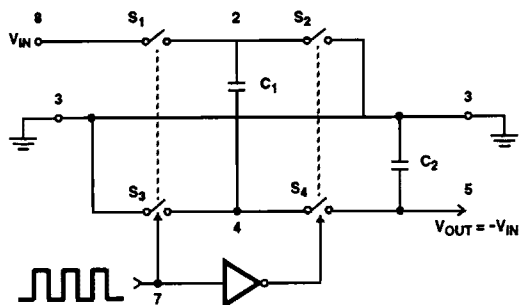
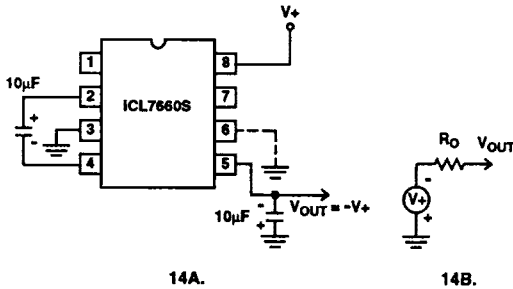
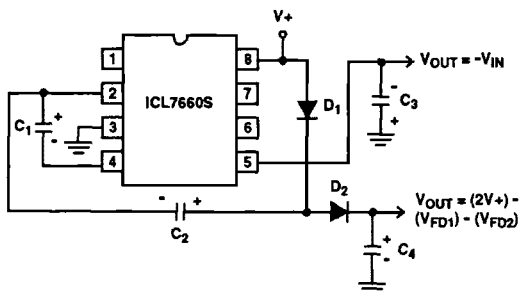

FIGURE 13. IDEALIZED NEGATIVE VOLTAGE CONVERTER
FIGURE 14. SIMPLE NEGATIVE CONVERTER AND ITS OUTPUT EQUIVALENT
FIGURE 21. COMBINED NEGATIVE VOLTAGE CONVERTER AND POSITIVE DOUBLER
The ICL7660S contains all the necessary circuitry to complete a negative voltage converter, with the exception of 2 external capacitors which may be inexpensive 10 μ F polarized electrolytic types. The mode of operation of the device may be best understood by considering Figure 13, which shows an idealized negative voltage converter. Capacitor C₁ is charged to a voltage, V₊, for the half cycle when switches S₁ and S₃ are closed. (Note: Switches S₂ and S₄ are open during this half cycle.) During the second half cycle of operation, switches S₂ and S₄ are closed, with S₁ and S₃ open, thereby shifting capacitor C₁ to C₂ such that the voltage on C₂ is exactly V₊, assuming ideal switches and no load on C₂. The ICL7660S approaches this ideal situation more closely than existing non-mechanical circuits.
In the ICL7660S, the 4 switches of Figure 13 are MOS power switches; S₁ is a P-Channel devices and S₂, S₃ and S₄ are N-Channel devices. The main difficulty with this approach is that in integrating the switches, the substrates of S₃ and S₄ must always remain reverse biased with respect to their sources, but not so much as to degrade their "ON" resistances. In addition, at circuit start up, and under output short circuit conditions (V_{OUT} = V₊), the output voltage must be sensed and the substrate bias adjusted accordingly. Failure to accomplish this would result in high power losses and probable device latchup.
where V₁ and V₂ are the voltages on C₁ during the pump and transfer cycles. If the impedances of C₁ and C₂ are relatively high at the pump frequency (refer to Figure 13) compared to the value of R_L, there will be substantial difference in the voltages V₁ and V₂. Therefore it is not only desirable to make C₂ as large as possible to eliminate output voltage ripple, but also to employ a correspondingly large value for C₁ in order to achieve maximum efficiency of operation.
The majority of applications will undoubtedly utilize the ICL7660S for generation of negative supply voltages. Figure 14 shows typical connections to provide a negative supply where a positive supply of +1.5V to +12V is available. Keep in mind that pin 6 (LV) is tied to the supply negative (GND) for supply voltage below 3.5V.
The output characteristics of the circuit in Figure 14 can be approximated by an ideal voltage source in series with a resistance as shown in Figure 14B. The voltage source has a value of $-(V_+)$. The output impedance (R_o) is a function of the ON resistance of the internal MOS switches (shown in Figure 13), the switching frequency, the value of C_1 and C_2 , and the ESR (equivalent series resistance) of C_1 and C_2 . A good first order approximation for R_o is:
Figure 21 combines the functions shown in Figure 14 and Figure 20 to provide negative voltage conversion and positive voltage doubling simultaneously. This approach would be, for example, suitable for generating $+9\text{V}$ and -5V from an existing $+5\text{V}$ supply. In this instance capacitors C_1 and C_3 perform the pump and reservoir functions respectively for the generation of the negative voltage, while capacitors C_2 and C_4 are pump and reservoir respectively for the doubled positive voltage. There is a penalty in this configuration which combines both functions, however, in that the source impedances of the generated supplies will be somewhat higher due to the finite impedance of the common charge pump driver at pin 2 of the device.